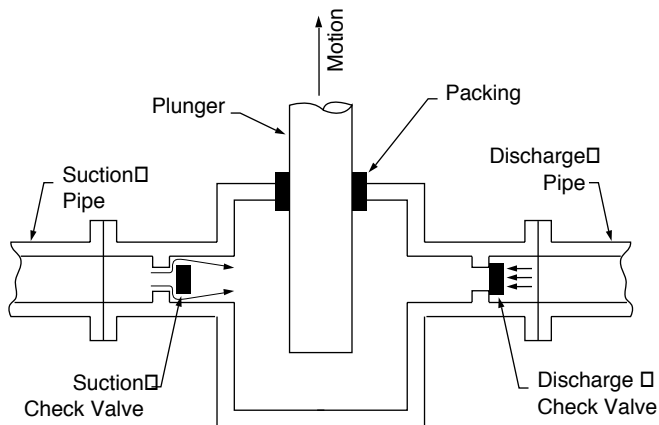

FIGURE 69. Liquid End of a Reciprocating Pump During the Suction Stroke
- All reciprocating pumps have a fluid-handling portion commonly called the *liquid end*, which has the following components (Figure 69):